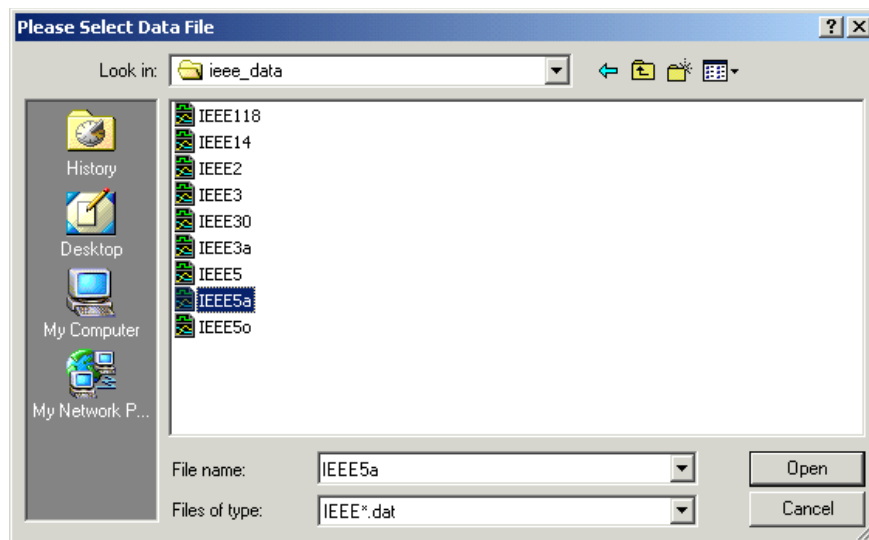

Fig. A.11 The Import dialog box
- This will activate the dialog box shown in Fig. A.11.